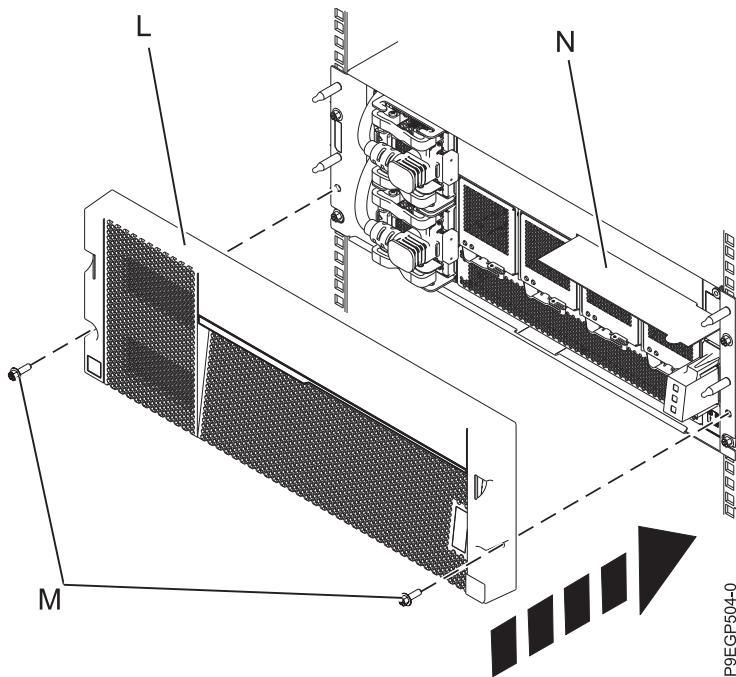

Figure 10. Installing the cover and service information card
7. Install the cover **(L)** onto the drawer. Press the cover into place and secure it with two M5 screws **(M)** on the left and right rails. See Figure 10 on page 12.